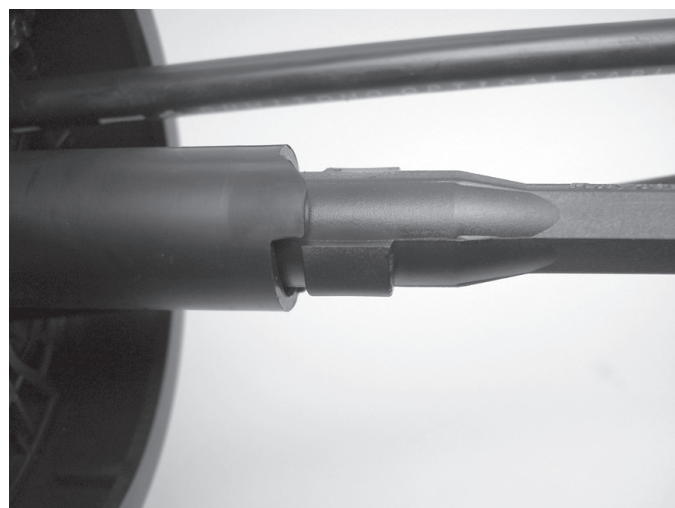

Fig 21
6. Turn the "tail" clock-wise until it dead ends at the physical stop or becomes tight (Figure 21). A screwdriver can be installed through the hole in the tail to tighten the seal. Hold the screwdriver tightly so it does not come out.